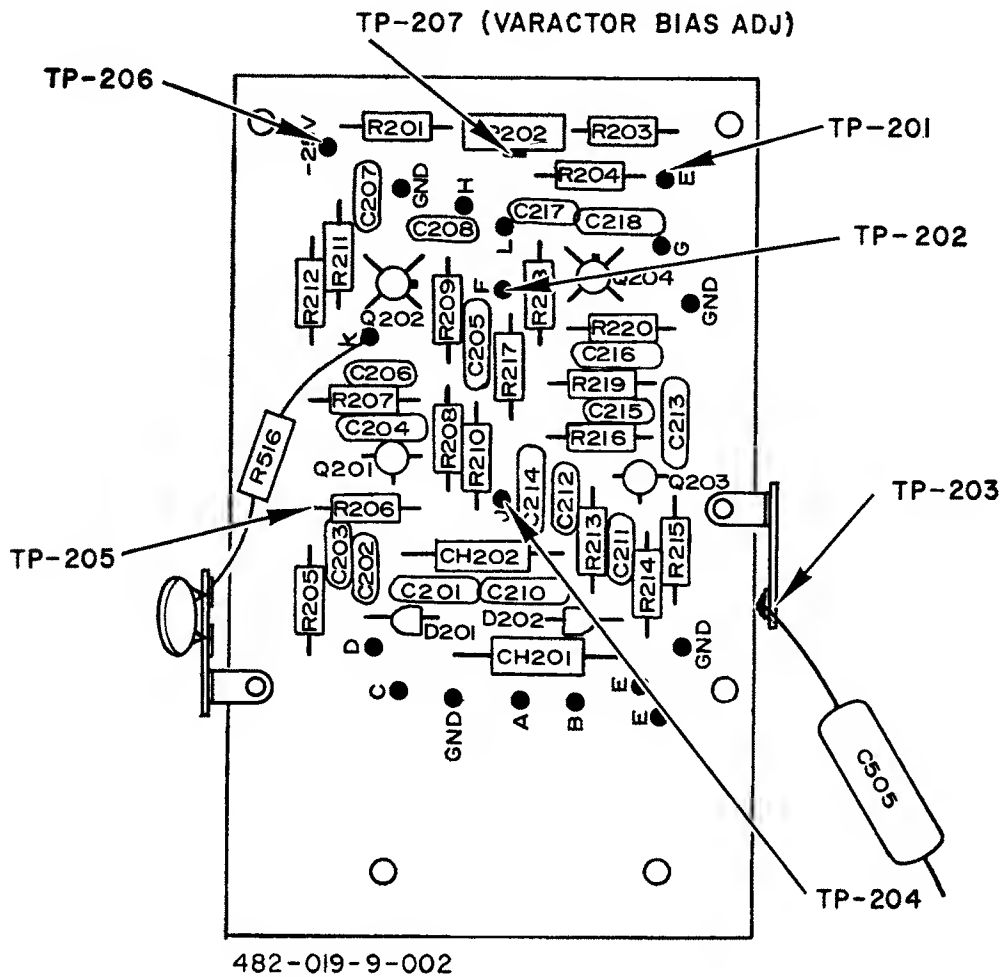

Figure 12.4. Parts Layout for Sweep Oscillator Board
(Refer to Figure 12.4)
- 12.4.7.1 With the Model 415 turned on, connect a VTVM (negative d-c voltage range) to TP-207 (center arm of potentiometer R202) as indicated in Figure 12.4. Adjust potentiometer R202 as required to obtain a reading of 11.0 volts dc.
TP-203, Fig. 12.4 (22 V. P-P)